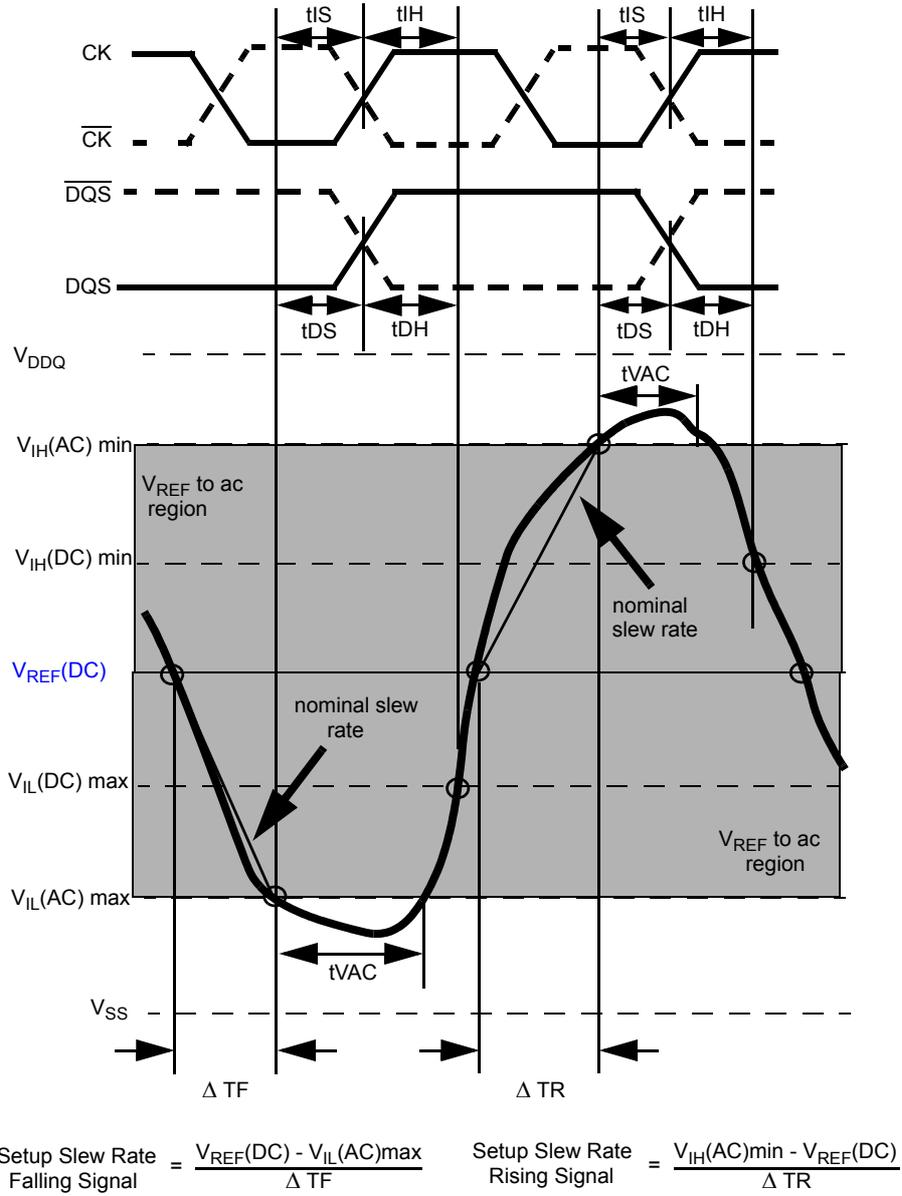
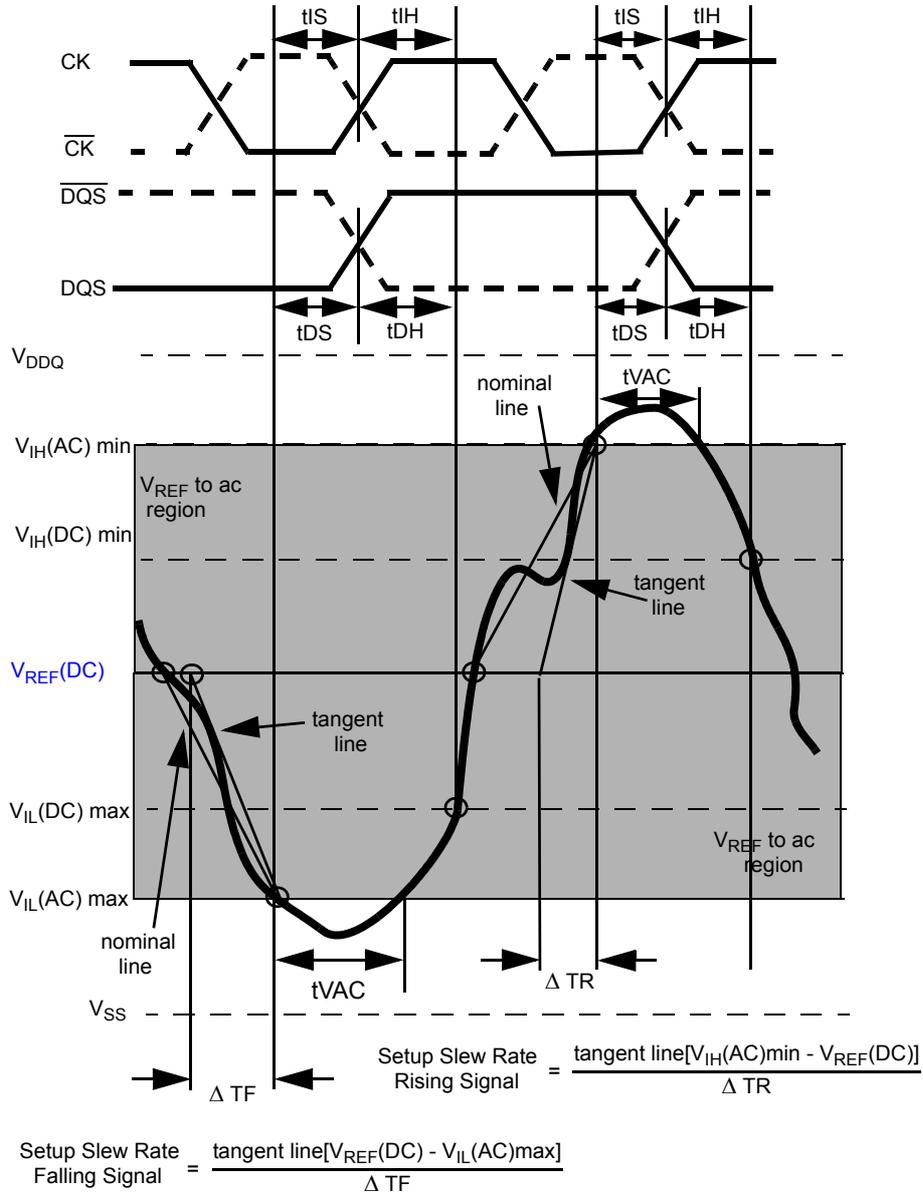

Figure 25. Illustration of nominal slew rate and t_{VAC} for setup time t_{DS} (for DQ with respect to strobe) and t_{IS} (for ADD/CMD with respect to clock).
Figure 27. Illustration of tangent line for setup time t_{DS} (for DQ with respect to strobe) and t_{IS} (for ADD/CMD with respect to clock)
Setup (tDS) nominal slew rate for a rising signal is defined as the slew rate between the last crossing of V_{REF}(DC) and the first crossing of V_{IH}(AC)min. Setup (tDS) nominal slew rate for a falling signal is defined as the slew rate between the last crossing of V_{REF}(DC) and the first crossing of V_{IL}(AC)max (see Figure 25). If the actual signal is always earlier than the nominal slew rate line between shaded 'V_{REF}(DC) to ac region', use nominal slew rate for derating value. If the actual signal is later than the nominal slew rate line anywhere between shaded 'V_{REF}(DC) to ac region', the slew rate of a tangent line to the actual signal from the ac level to dc level is used for derating value (see Figure 27).